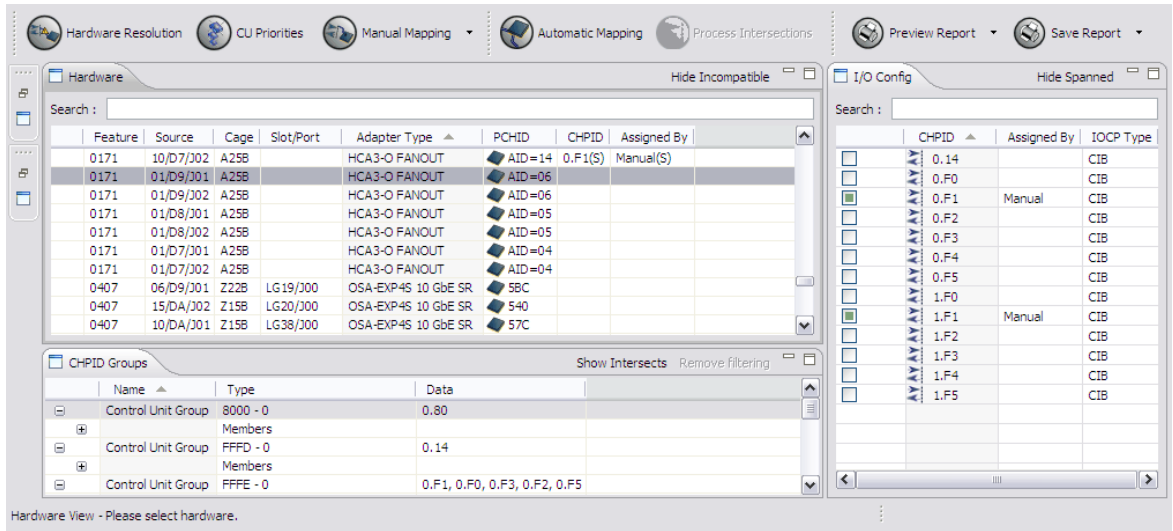

Figure 111. Green squares in check boxes in I/O Config pane
- If the I/O Config pane has a green box inside a check box, this means the CHPID is already assigned to another PCHID, and you cannot assign it to the target PCHID. Figure 111 on page 90 shows an example.